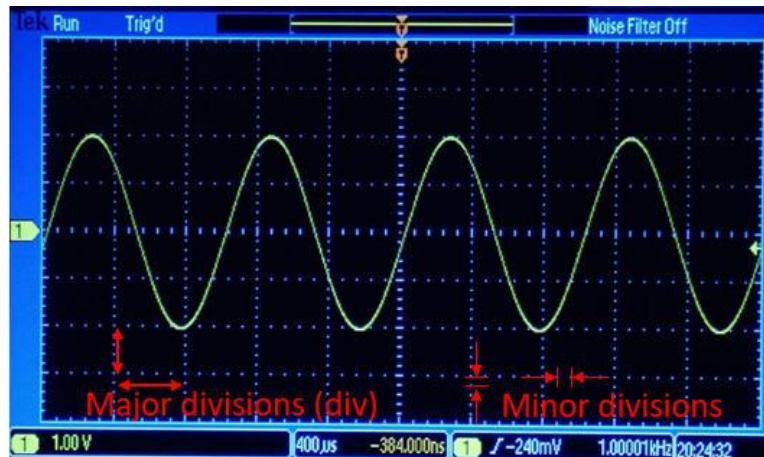
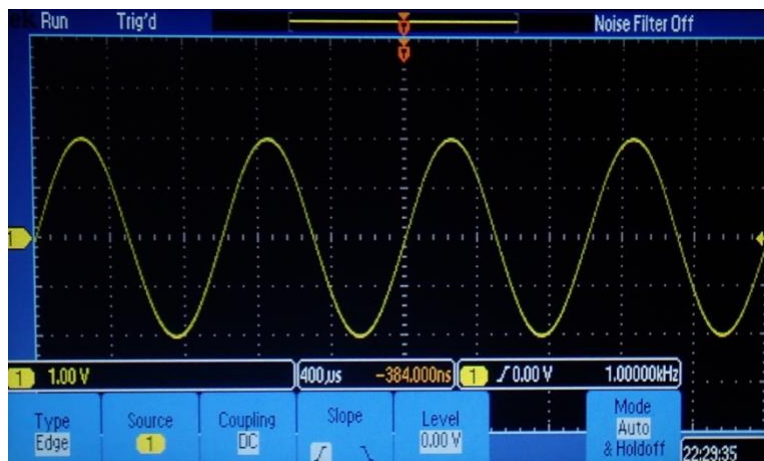

Figure 12. Example of 1 kHz signal
Figure 13. The same waveform as Figure 12 but with visible trigger menu.
Example: Major and minor divisions are shown on Figure 12. For the vertical scale, one div is 1.0V (1.00 V in the Figure) while for the horizontal time scale, one div is $400 \mu\text{s}$ ($400 \mu\text{s}$ in the Figure). There are 5 minor divisions in 1 major division. In the Figure, the V_{pp} reading is 4 major + no minor division in the vertical scale, $V_{pp} = 4.0V$.
- Now that you already have a nice signal on the screen, let's play with trigger control. explore what it actually does. The picture below shows the Figure 12 waveform with the oscilloscope trigger menu visible. **The trigger level in Figure 13 is indicated by a yellow arrow on right side of the scope face.**